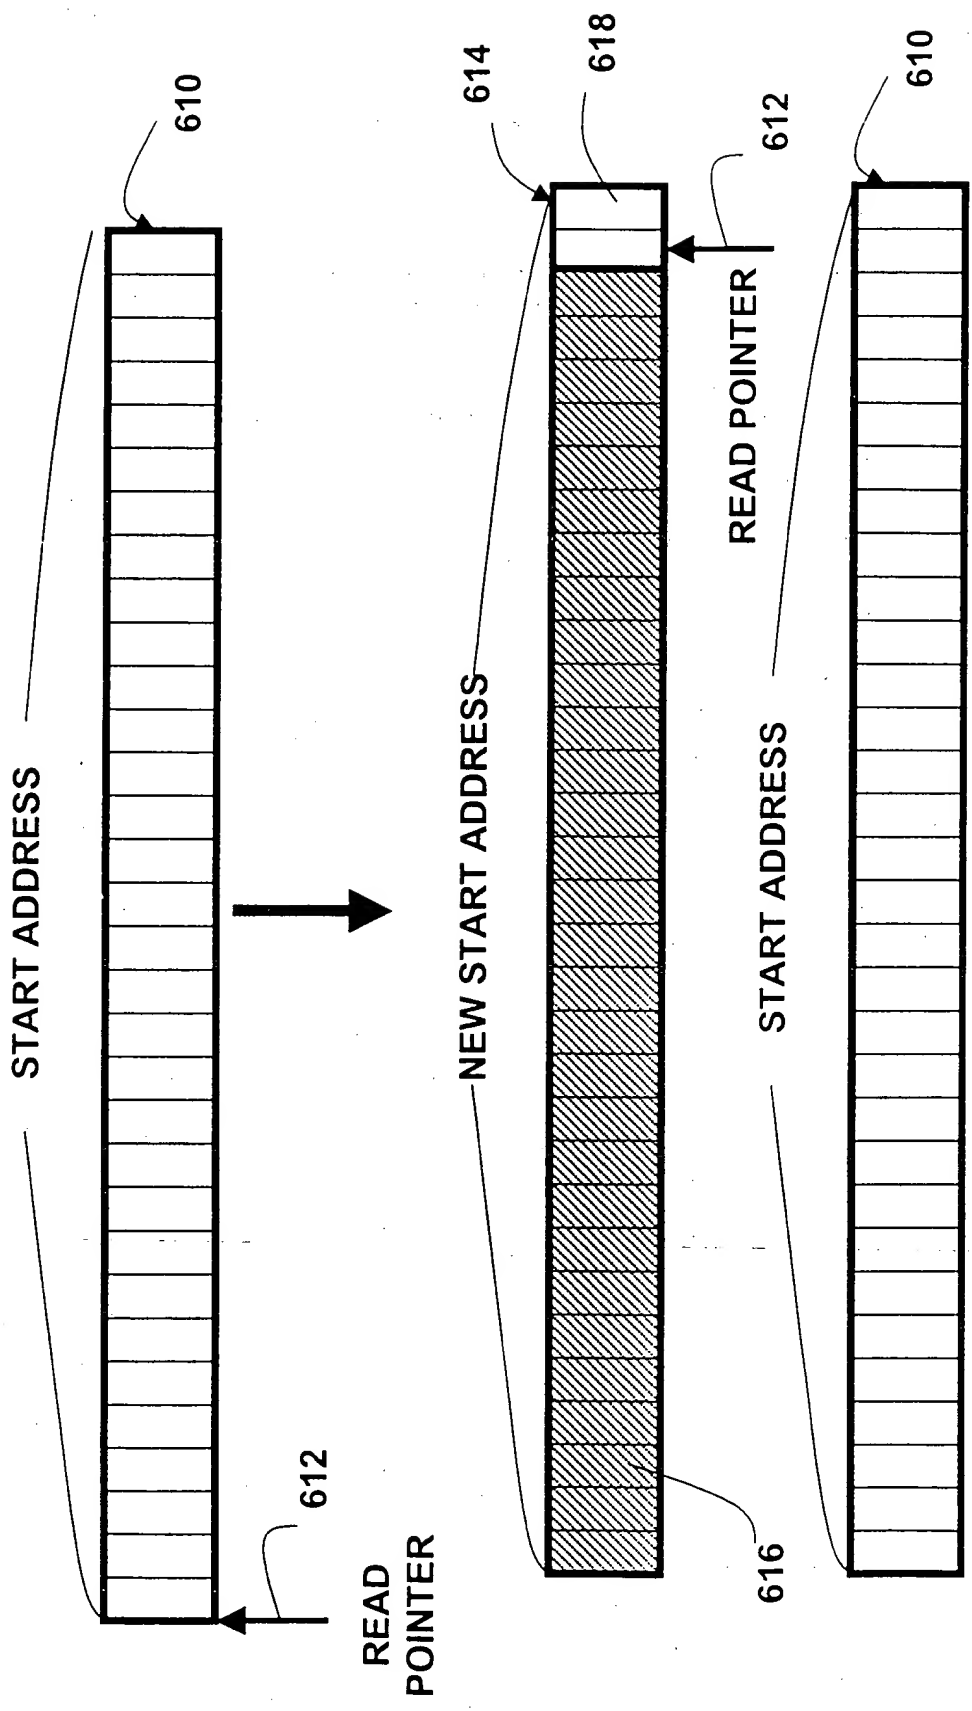

FIG. 16
FIG. 16 is a diagram illustrating a memory structure and its operation. The diagram shows a sequence of memory cells, each represented by a rectangular box. The first sequence of cells is labeled "START ADDRESS" and "610". A "READ POINTER" (612) is shown pointing to the first cell of this sequence. An arrow indicates a transition to a second sequence of cells, which is labeled "NEW START ADDRESS" and "614". This second sequence is divided into two parts: a shaded region (616) and an unshaded region (618). A "READ POINTER" (612) is shown pointing to the first cell of the unshaded region (618). A third sequence of cells is shown below the second, labeled "START ADDRESS" and "610".